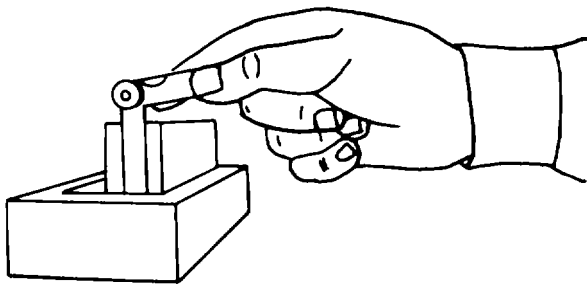

Figure 3-71. Using a Thickness Gauge
a. Use. The thickness gauge is used to measure the clearance between two surfaces, such as checking piston ring gap clearance in a cylinder bore. Another typical use is shown in figure 3-71.
- (1) Coat metal parts of thickness gauges with a light coat of oil to prevent rust.
- (2) Store gauges in separate containers.
- (3) Do not drop thickness gauges. Small nicks and scratches will result in inaccurate measurements.